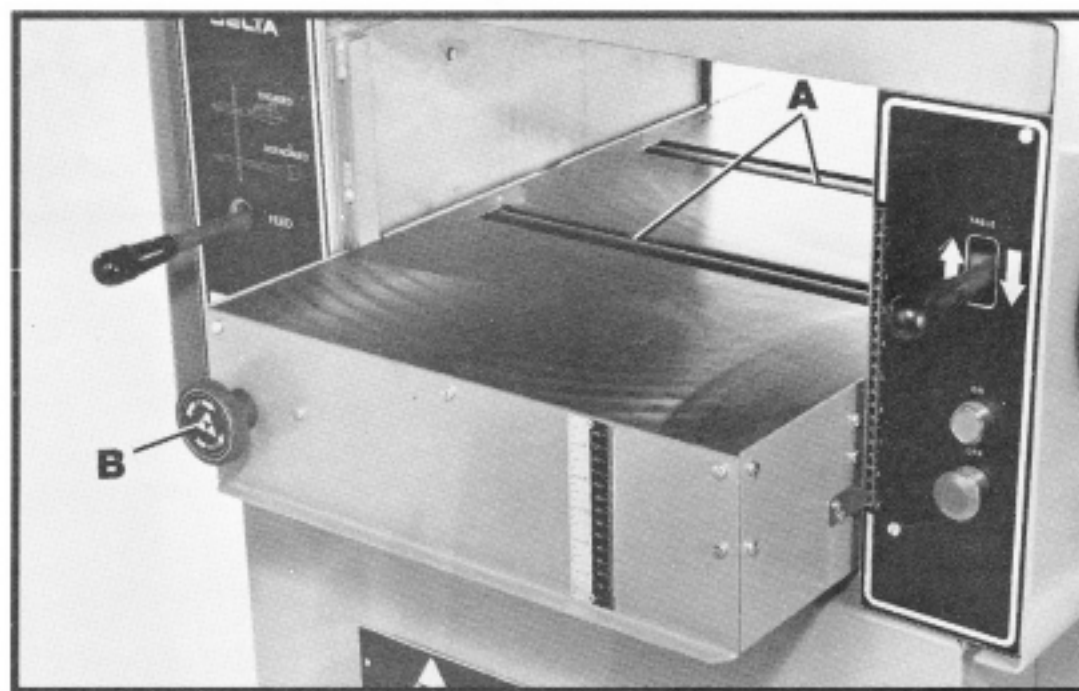

Fig. 16
Your planer is supplied with two table rollers (A) Fig. 16, which aid in feeding the stock by reducing friction and turn as the stock is fed through the planer. It is not possible to give exact dimensions on the proper height setting of the table rollers because each type of wood behaves differently. As a general rule, however, when planing rough stock the table rollers should be set **HIGH** and when planing smooth stock the table rollers should be set **LOW**.
To raise table rollers (A) Fig. 16, turn adjustment knob (B) clockwise. To lower table rollers (A) turn adjustment knob (B) counterclockwise.